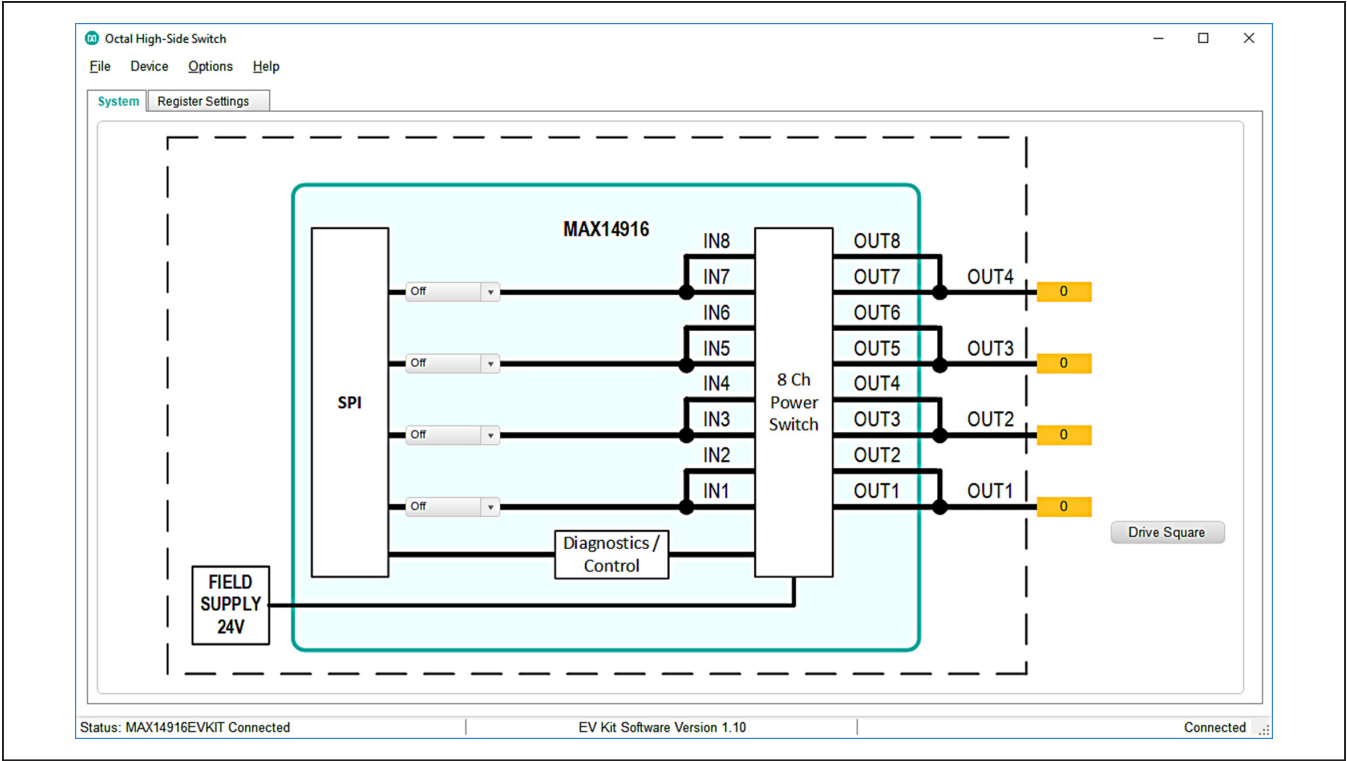

Figure 1. MAX14916 EV Kit GUI System Tab
- 6) Start the EV kit software by opening its icon in the **Start | Programs** menu. Select the MAX14916EVKIT button in the startup window. The EV kit software appears as shown in Figure 1. Verify that the lower-right status bar indicates the EV kit hardware is **Connected**. The GUI automatically detects EV kit is connected to the PC and enables serial communication. Any configuration change can be made on Register Settings tab. (The following steps are used to verify functionality of the MAX14916)
Figure 1 shows a grayscale image of a printed circuit board (PCB) layout. The board is rectangular with a central vertical slot. It features various components including circular pads, rectangular pads, and a grid of small squares. A scale bar at the bottom left indicates a length of 1.0 inch.